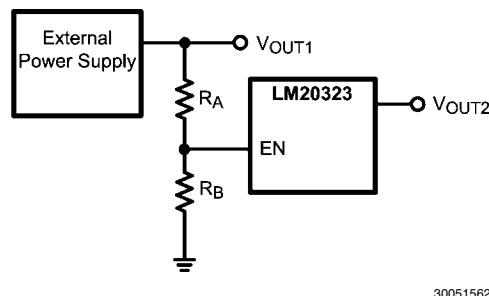

FIGURE 5. Sequencing LM20323 with Precision Enable
The LM20323 has an internal under-voltage lockout protection circuit that keeps the device from switching until the input voltage reaches 4.25V (typical). The UVLO threshold has 350 mV of hysteresis that keeps the device from responding to power-on glitches during start up. If desired the turn-on point of the supply can be changed by using the precision enable pin and a resistor divider network connected to V_{IN} as shown in *Figure 5* in the design guide.
The precision enable (EN) and power good (PGOOD) pins of the LM20323 can be used to address many sequencing requirements. The turn-on of the LM20323 can be controlled with the precision enable pin by using two external resistors as shown in *Figure 5*.